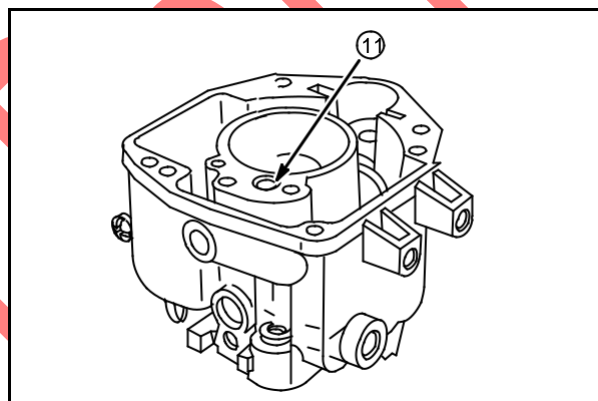

Fig. 88
Install pilot jet (11) using Screwdriver #19061, **Fig. 88**.